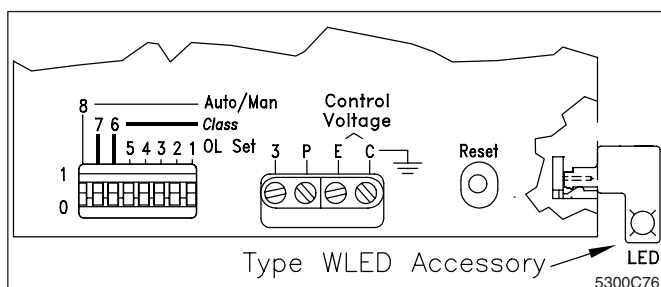

Fig. 3 DIP Switch, Terminals and Reset
Use the eight-position (8 pole) DIP switch to select the method of reset (MANUAL or AUTOMATIC), the overload protection Class (10, 20, 30, or NONE), and the trip current rating appropriate for the motor full load current in amperes (FLA). When a DIP switch handle is moved towards the position number (marked 8 through 1, left to right), that pole is closed (represented by "1"). When a switch handle is moved away from the position number, the pole is open (represented by "0"). See Figure 3. **Be sure that each DIP switch handle is moved to the full ON (1) or full OFF (0) position.**
An Advantage non-reversing motor controller may be used with two-wire control or any one of three three-wire control schemes. The four point (3-P-E-C) terminal block shown in Figure 3 is attached to the shock-mounted circuit board and will give approximately 1/16 inch under screw-driver pressure.